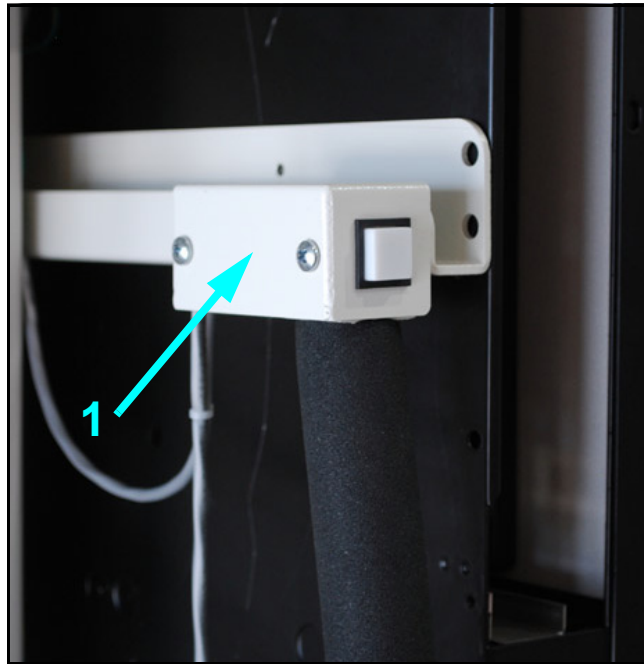

Figure 2-23. Locking Mechanism
- 22** Attach the bucky switch cover mechanism (1 in Figure 2-23) to the handle.